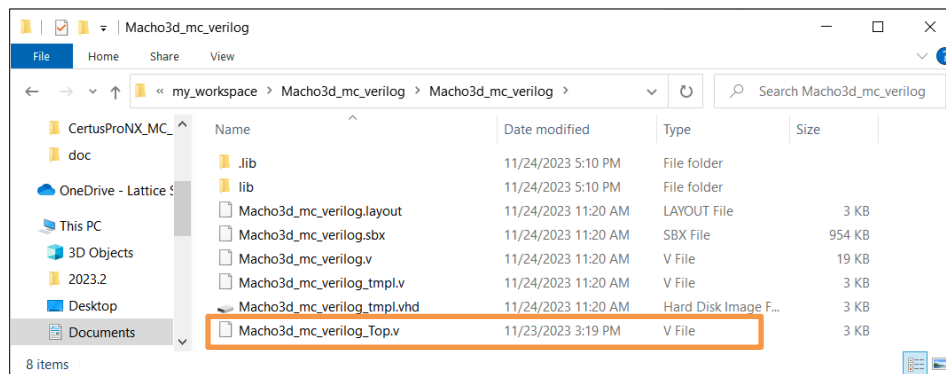

Figure 5.11. Top.v File in Source Project
- Copy top.v from the source project, which is used for the Diamond flow (Figure 5.11).